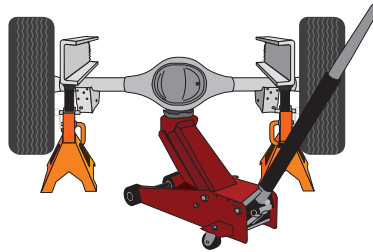

fig. 2
1. Raise the vehicle and support the axle with safety stands, setting the jack stands as wide as possible on the axle (Fig. 2).